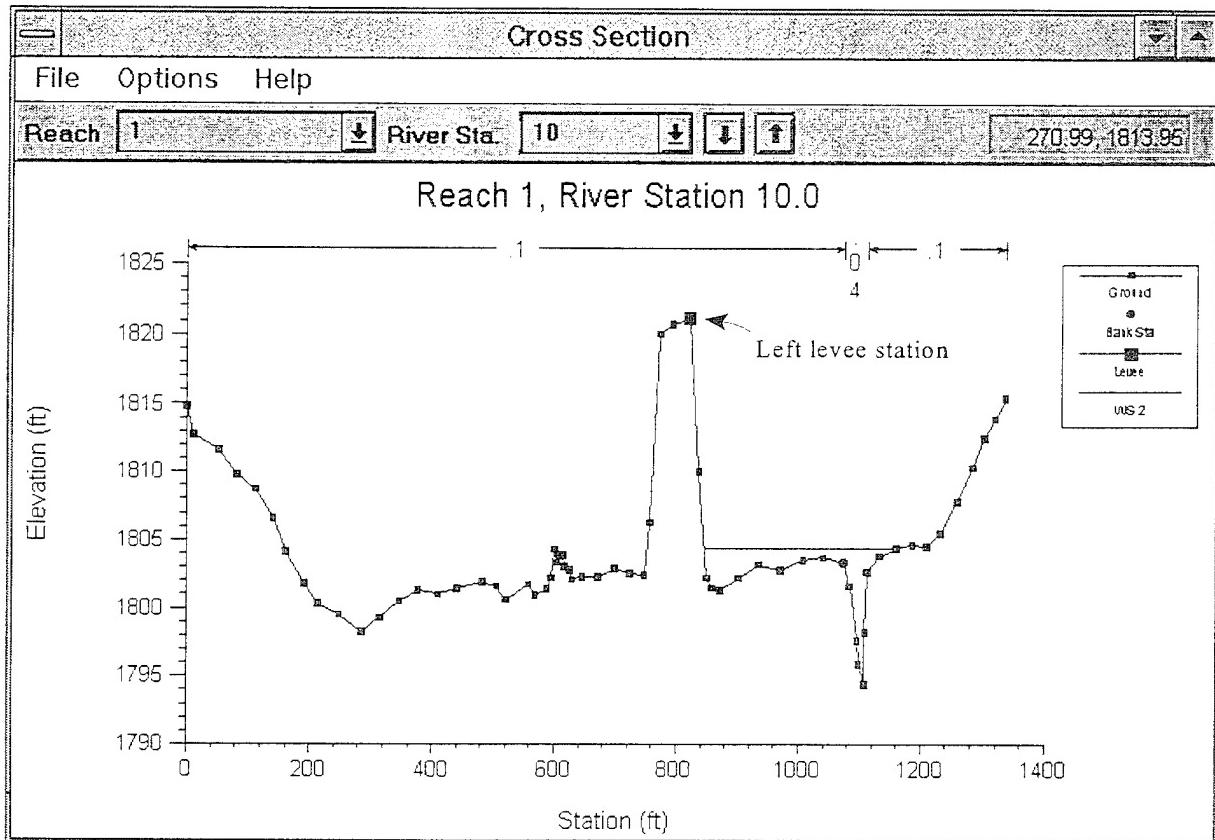

Figure 6.4 Example of the Levee Option
**Levees.** This option allows the user to establish a left and/or right levee station and elevation on any cross section. When levees are established, no water can go to the left of the left levee station or to the right of the right levee station until either of the levee elevations are exceeded. Levee stations must be defined explicitly, or the program assumes that water can go anywhere within the cross section. An example of a cross section with a levee on the left side is shown in Figure 6.4. In this example the levee station and elevation is associated with an existing point on the cross section.